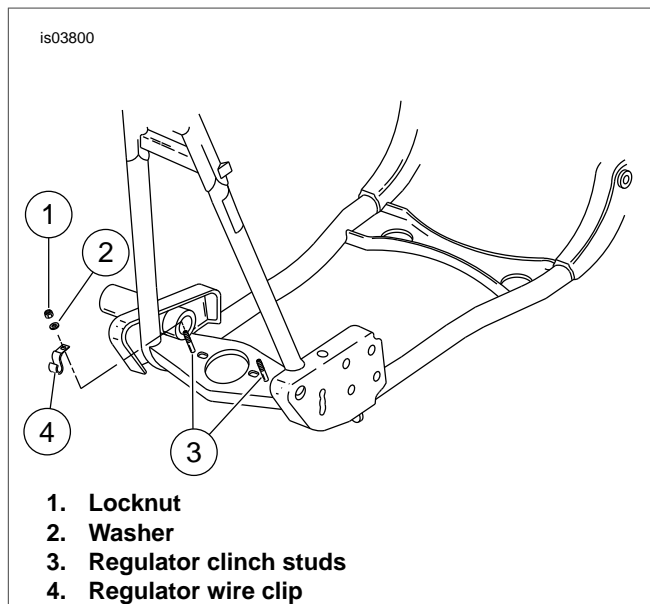

Figure 1. Frame
1. See Figure 1. Remove the locknuts (1) and washers (2) from the regulator clinch studs (3). On fuel injected models, remove the regulator wire clip (4). Let the regulator hang by its wires. Move the voltage regulator safely away from the regulator clinch studs in the frame cross-member. Use a hammer to knock the regulator clinch studs out of the frame cross-member.
6. See Figure 1. Place the regulator wire clip (4) over the right-side bolt. Place the regulator in position.